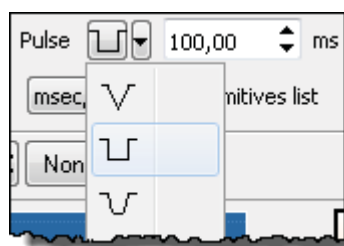

Fig. 13-32. Pulse shape
- In the drop-down list **Pulse**, select the desired pulse shape (Fig. 13-32).